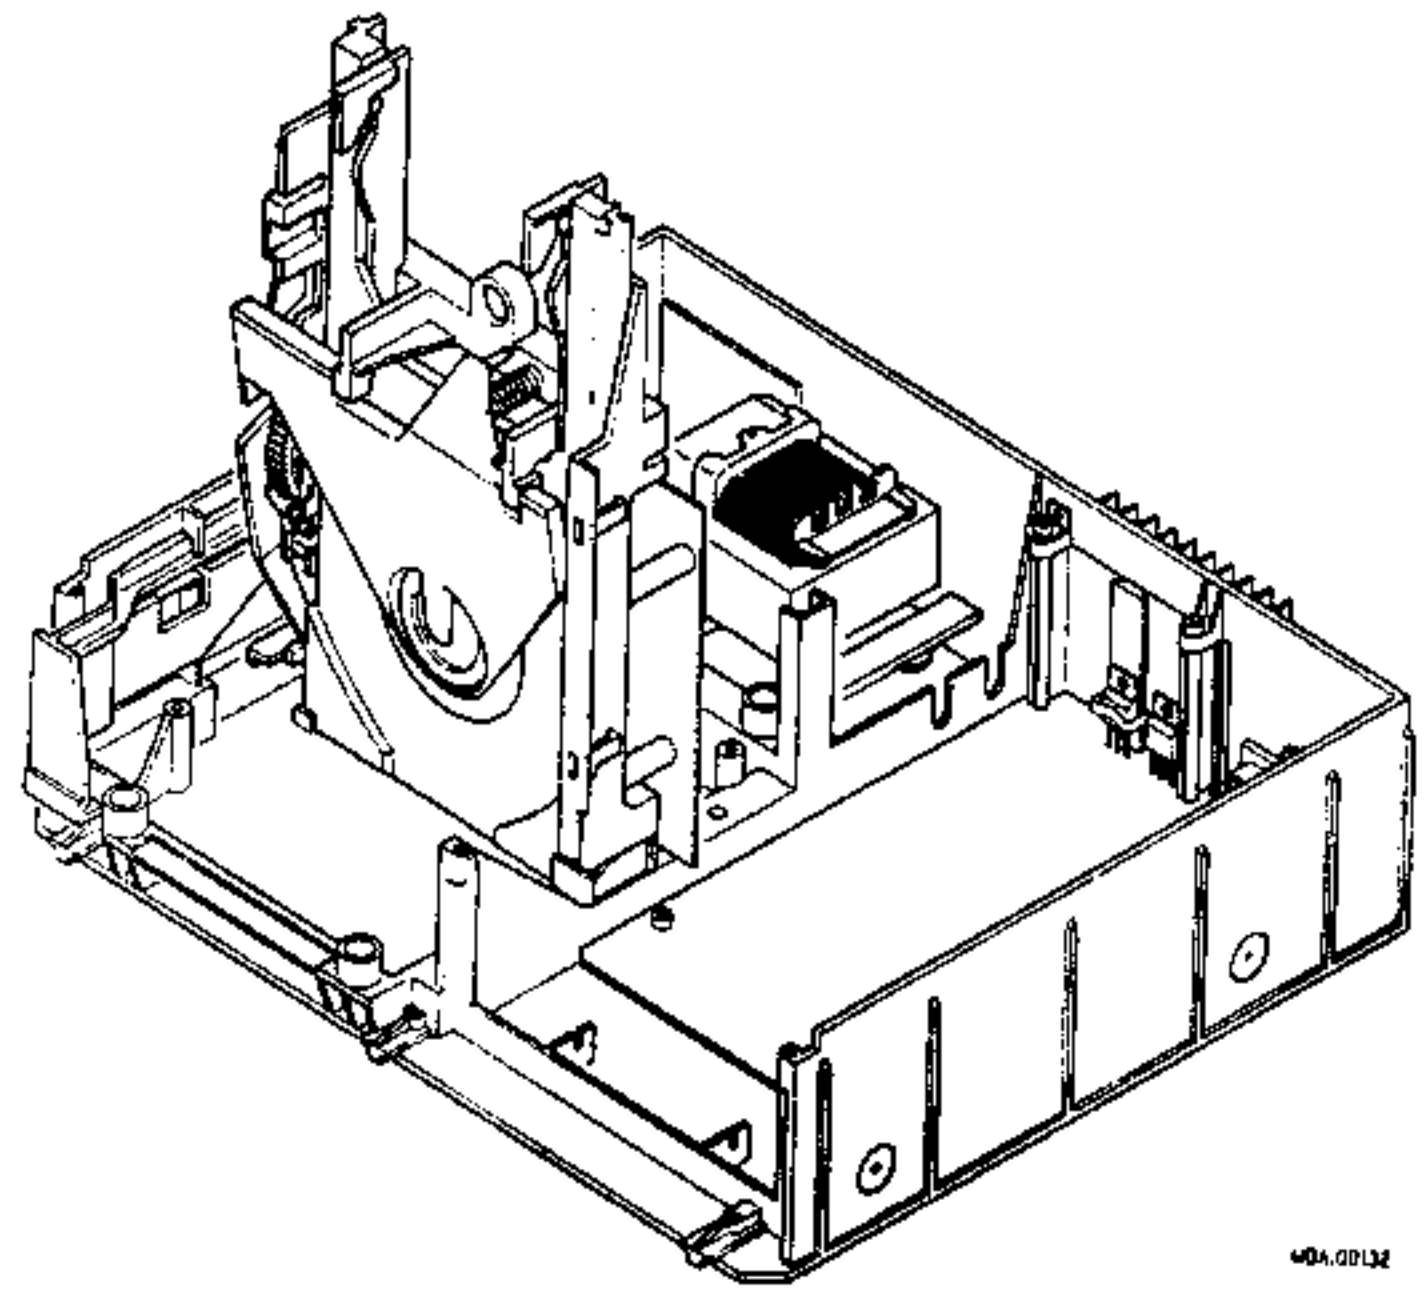

Fig. 3
(see Fig. 3)
- Now the tray mechanism/CDM/servo + pre-ampl. PCB assy can be taken out of the frame and can be placed vertically in the appropriate servicing supports in the frame (see Fig. 3).